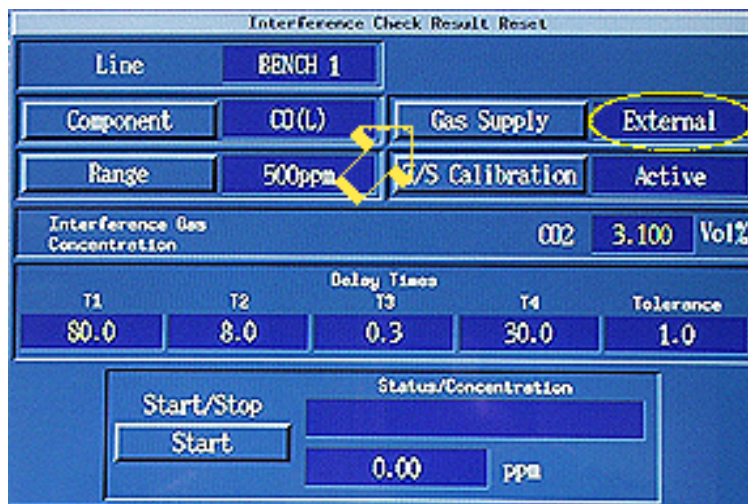

Figure 12
- 114 Verify that the field to the right of the “Gas Supply” button contains “External.” If not, click on the “Gas Supply” button (see Figure 12) and from menu items that appear below the button, click on “External.” See the circle in Figure 12.